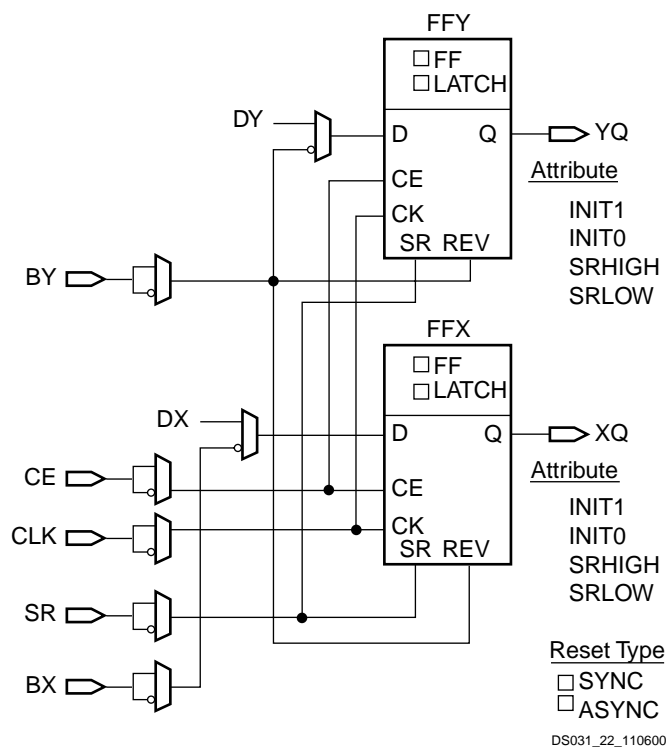

Figure 15: Register / Latch Configuration in a Slice
In addition to clock (CK) and clock enable (CE) signals, each slice has set and reset signals (SR and BY slice inputs). SR forces the storage element into the state specified by the attribute SRHIGH or SRLOW. SRHIGH forces a logic "1" when SR is asserted. SRLOW forces a logic "0". When SR is used, a second input (BY) forces the storage element into the opposite state. The reset condition is predominant over the set condition. (See Figure 15.)